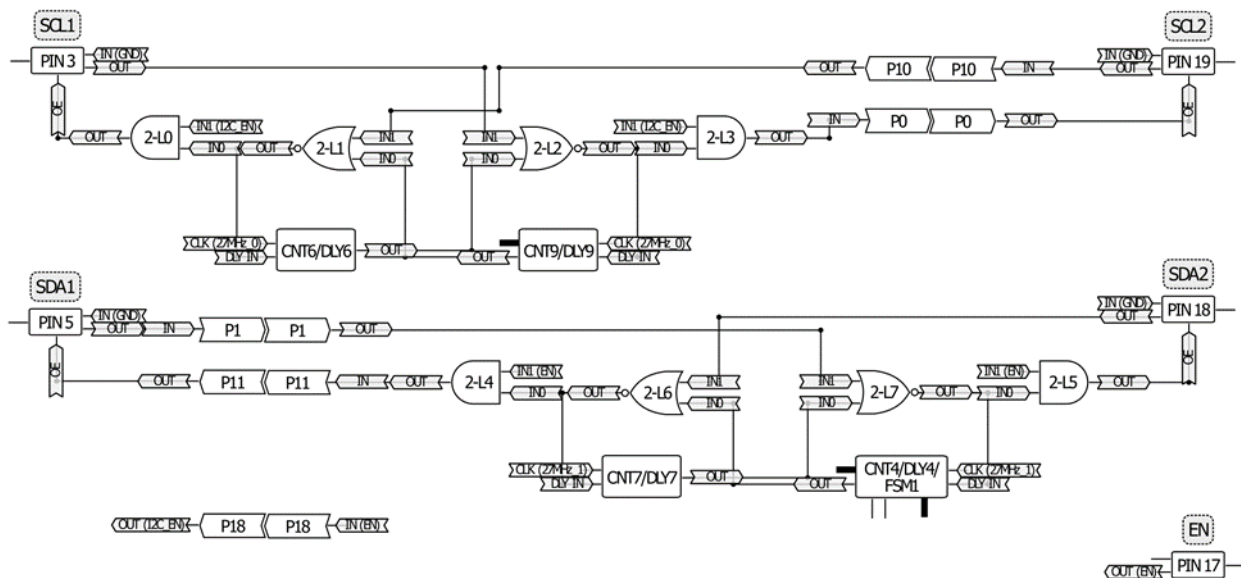

Figure 2. I2C Level-shifter Schematic
By using a handful of small lookup tables (LUTs) and delay macro cells, a dual-rail GreenPAK can be configured as an I2C level-shifter. Figure 2 shows the full PAK schematic. The top half connects the SCL while the bottom half connects the SDA. The AND gates are pass gates controlled by the enable signal (EN). The NOR gates control the Output Enable's (OE's) of each GPIO. When OE is low, the pin becomes a high impedance input pulled to VREF by an external resistor. When OE is high, the pin becomes an open drain NMOS output pulling to GND. The ports, labeled P0/P1/P10/P11/P18 connect signals between the two matrices of the SLG46620V. The DLY blocks feed a delayed falling edge back from the NOR gates.